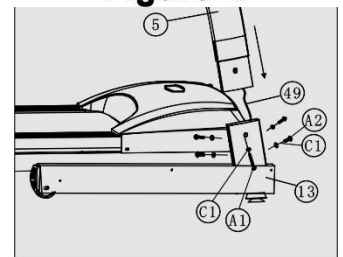

Figure 2
- Pull out the Signal wire (49) from the lower side to upper side of the right upright tube (5). (see figure 2)
- Insert Right upright tube (5) to base frame (13), and attach four Half-round bolts M8X16 (A2), one Half-round bolt M8X40 (A1), and five Flat washers $\Phi 8$ (C1). Do not tighten all parts provisionally. (see figure 2)